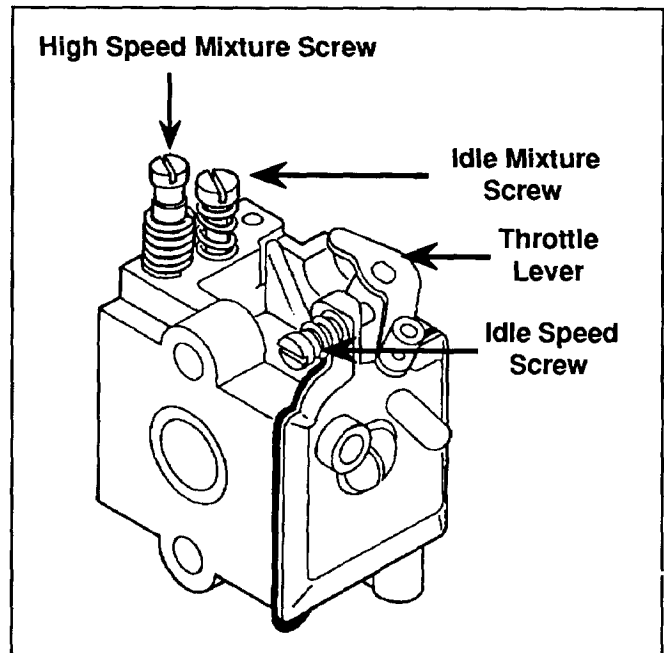

Fig. 25
2. **Initial Idle Speed Setting:** Turn the idle speed screw **counterclockwise** (Fig. 25) until it *does not* contact the carburetor throttle lever. Now turn the screw **clockwise** until it *begins to move* the throttle lever; then continue turning 2 full turns.
3. **Initial High Speed and Idle Mixture Settings:** Turn both the high and idle mixture screws **clockwise** (Fig. 25) until they are *lightly* seated. Then turn the screws **counterclockwise** 1-1/4 turns.
5. Release the throttle trigger and let the engine idle. If the engine stops, turn the idle speed screw (Fig. 25) **clockwise 1/8 turn** at a time (as required) until the engine idles.
- a. Turn the idle mixture screw (Fig. 25) clockwise until you hear the fastest idle; then turn the screw **counterclockwise 1/8 turn**.
- b. Squeeze the throttle trigger. If the engine falters or hesitates as it accelerates, turn the idle mixture screw (Fig. 25) **counterclockwise 1/16 turn** at a time until the engine accelerates rapidly.